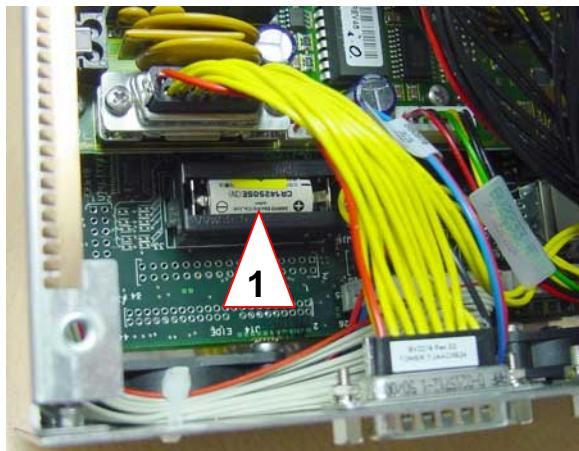

Fig. 3-48 MBX board battery
4. Take the MBX board battery out of the holder (see Fig. 3-48, 1)